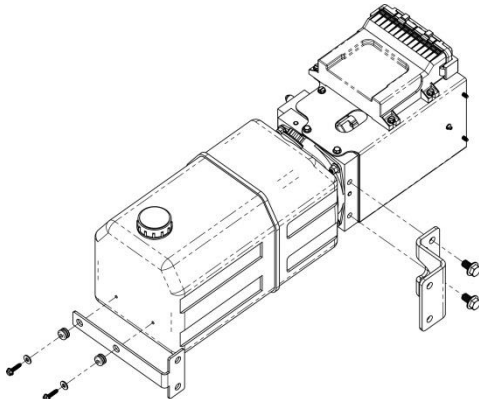

Figure 30. Attaching the mounting brackets.
8. Locate the Power Module Manifold Mount bracket, p/n 10799-004 and (2) 3/8"-16 x .625" Serrated Flange Hex Screws.
9. Attach the bracket to the power module as shown in Figure 30. **Torque to 35-45 ft-lbs.**